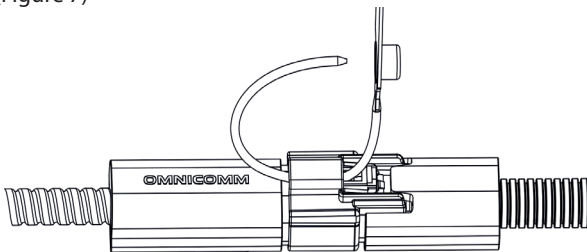

Figure 7. Mounting the sealing tie
- Run the sealing tie flexible piece through the hole in the seal body (Figure 7)